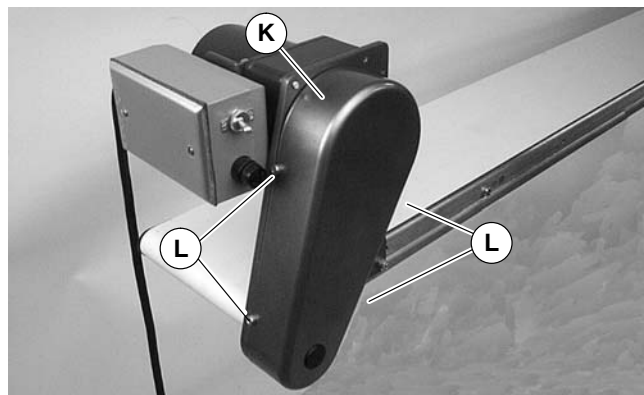

Figure 13
9. Install cover (K of Figure 13) with four (4) screws (L). Tighten to 35 in-lb (4 Nm).